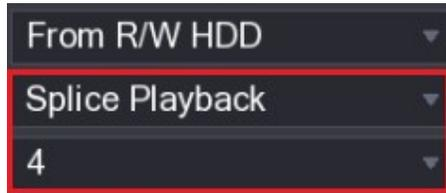

Figure 5-106
Step 2 In the **Search Type** list, select **Splice Playback**; In the Split Mode list, select **4, 9,** or **16**. See Figure 5-106.